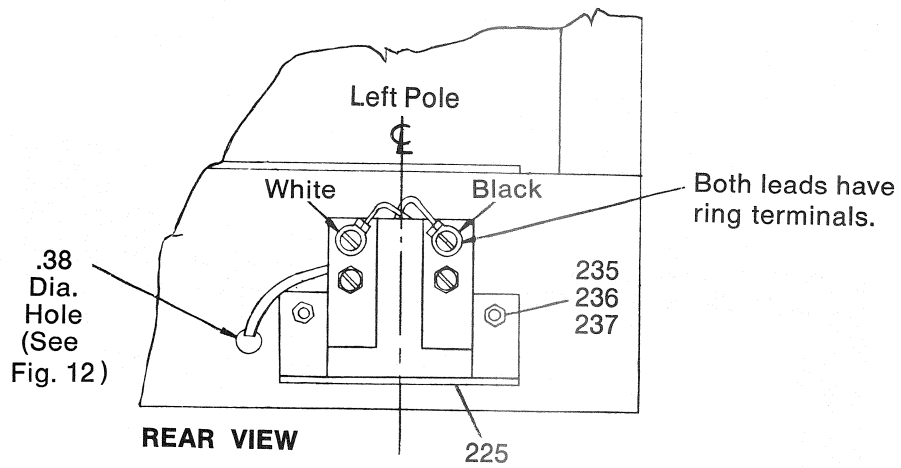

Fig. 14 — Mounting of 4th-wire neutral sensor disconnect block on drawout breaker (when used). See fig. 15.
3. On drawout breakers being equipped with 4-wire ground fault, mount the neutral sensor disconnect block 225 on the rear surface of the back frame per Figs. 14 and 15, using existing holes.